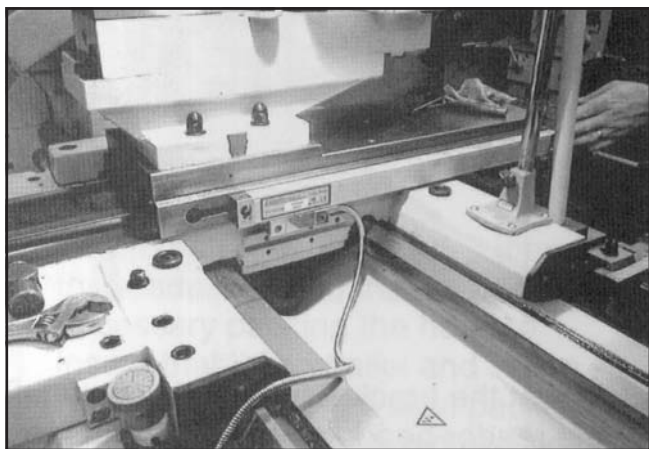

Figure 24. Flat surface for scale mounting.
2. Select a flat surface that is suitable and clear of the travelling parts of the lathe and mount the cross slide scale, shown in **Figure 24**.